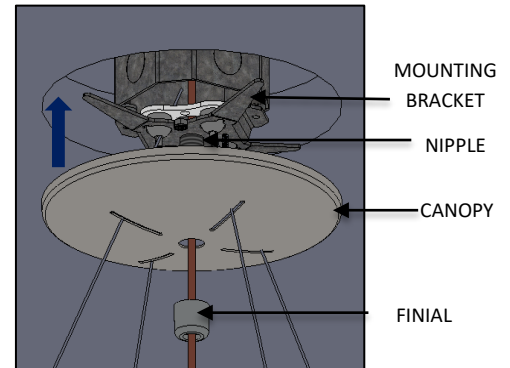

FIG. 19 - FINIAL INSTALLATION
11. Raise CANOPY and secure to ceiling by threading the FINIAL to the NIPPLE (MOUNTING BRACKET ASSEMBLY) until fully seated as shown in FIG. 19.